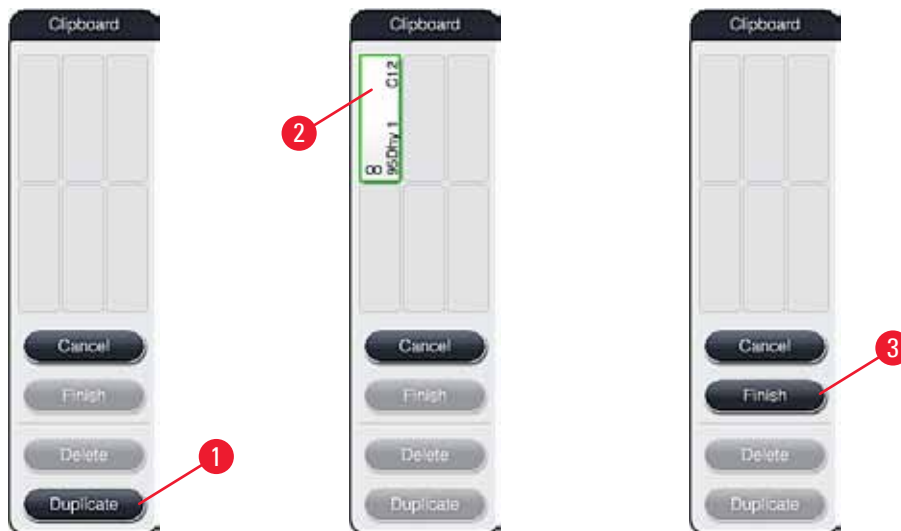

Fig. 54
2. Note the subsequent message and confirm it with "Ok". A new "Clipboard" (→ "Fig. 54") window opens.